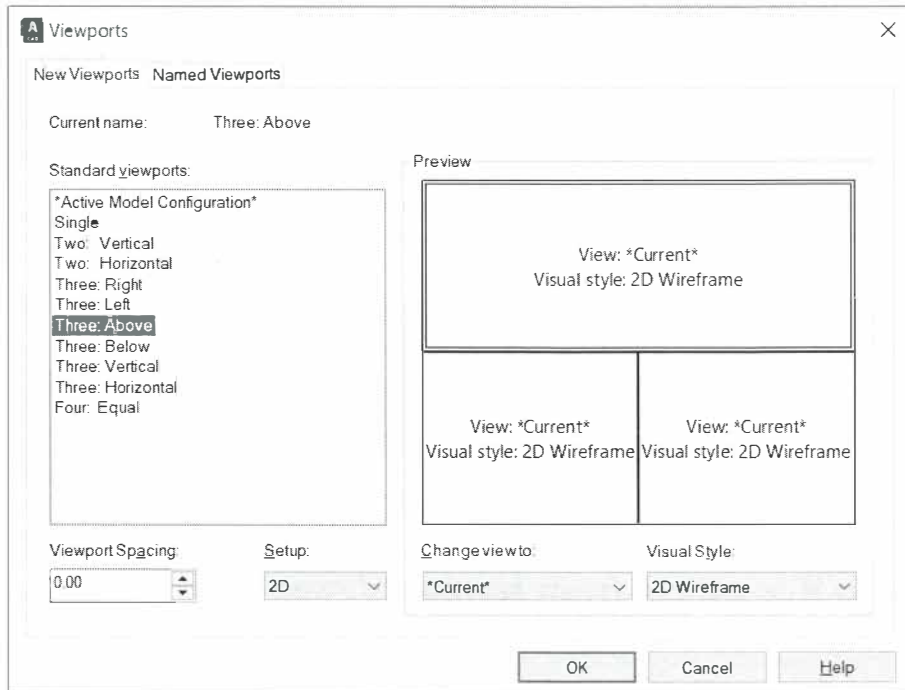

Figure 8–6
6. In the *Preview* area, select one of the Views as shown in Figure 8–6. The Preview View is highlighted and, by default, the current view is displayed in all of the viewports.
7. In the Change view to drop-down list, select a named view (if any have been saved), as shown in Figure 8–7, to display in that Viewport location.